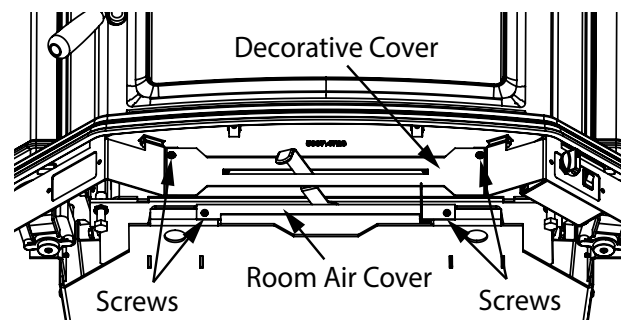

Figure 9: ALT 5 Ins LE - Room air Cover.
2. Room air supply: Remove the two screws securing the Decorative Cover under the ashlip. Remove the screws holding the Room Air Cover to the Base bottom and discard the this cover. Re-install the Decorative Cover and tighten screws (Figure 9). Combustion Air will be drawn from the room through the front of the unit.